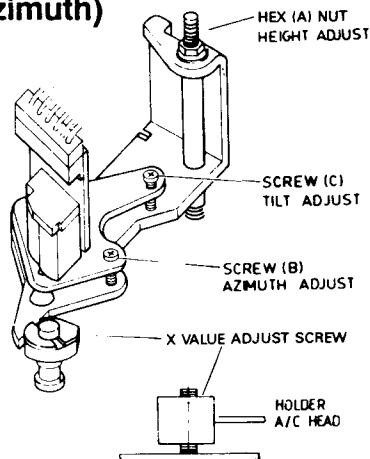

Fig. 7 Audio/Control Head Assembly
4. Carefully move the A/C head base plate in either direction for maximum head envelope output by adjusting the X-value screw. (Fig. 7).